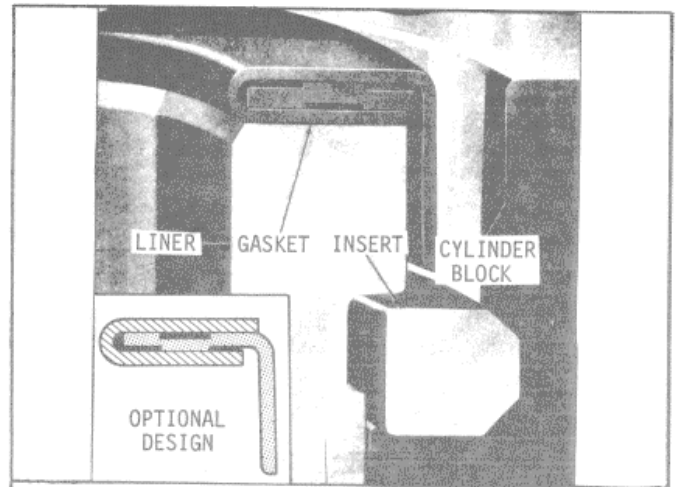

Fig. 10 Cylinder Liner Mounting in Block
- (1) Wipe the inside and outside of the liner clean and make sure the block bore and counterbore are clean.
- (2) Place a standard size cylinder liner insert (.1795-.1800" thick) in the block counter-bore (Fig. 10).
- (3) Push the cylinder liner into the cylinder block until the liner flange rests on the insert. Do not use excessive force to install the liner. The liner should slide smoothly in place with hand pressure. If a new liner cannot be pushed in place, light honing of the block bore may be necessary to obtain the desired fit for best heat transfer.